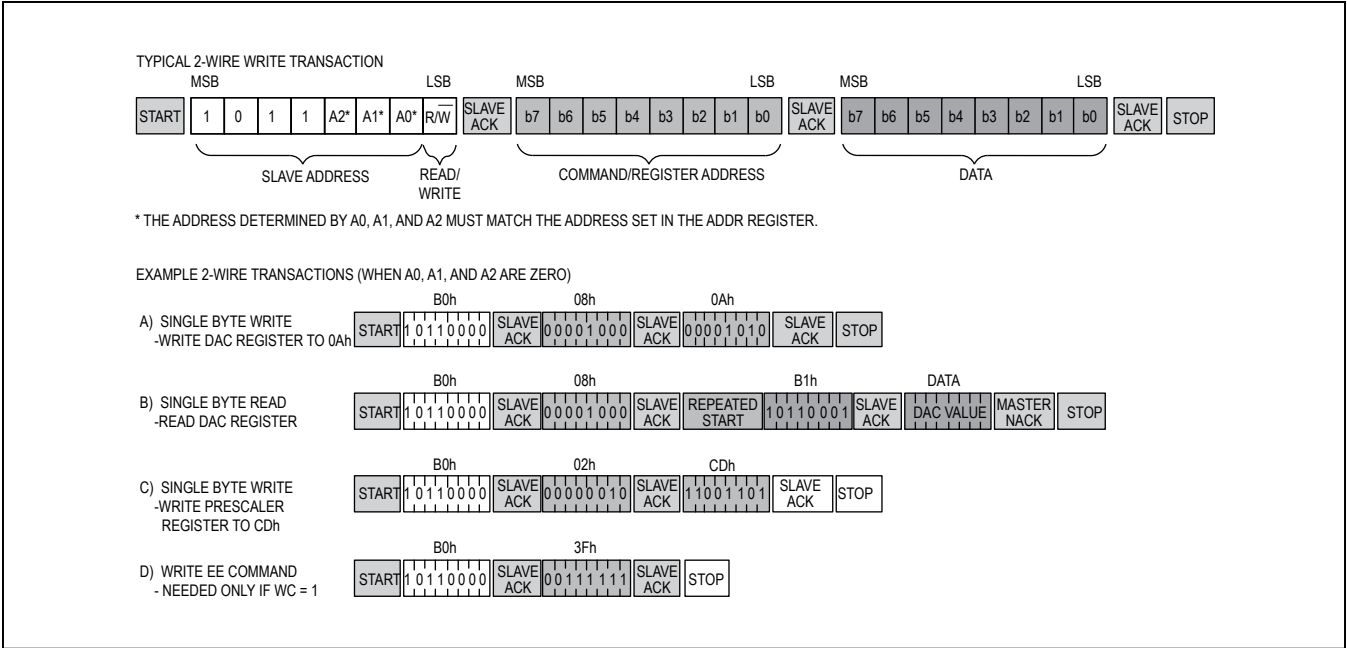

Figure 5. 2-Wire Communication Examples
**Reading a Single Byte from a Slave:** A dummy write cycle is used to read a particular register. To do this the master generates a start condition, writes the slave address byte (with R/W = 0), writes the memory address of the desired register to read, generates a repeated start condition, writes the slave address byte (with R/W = 1), reads the register and follows with a NACK (since only one byte is read), and generates a stop condition. See Figure 5 for examples of reading DS1094L registers.